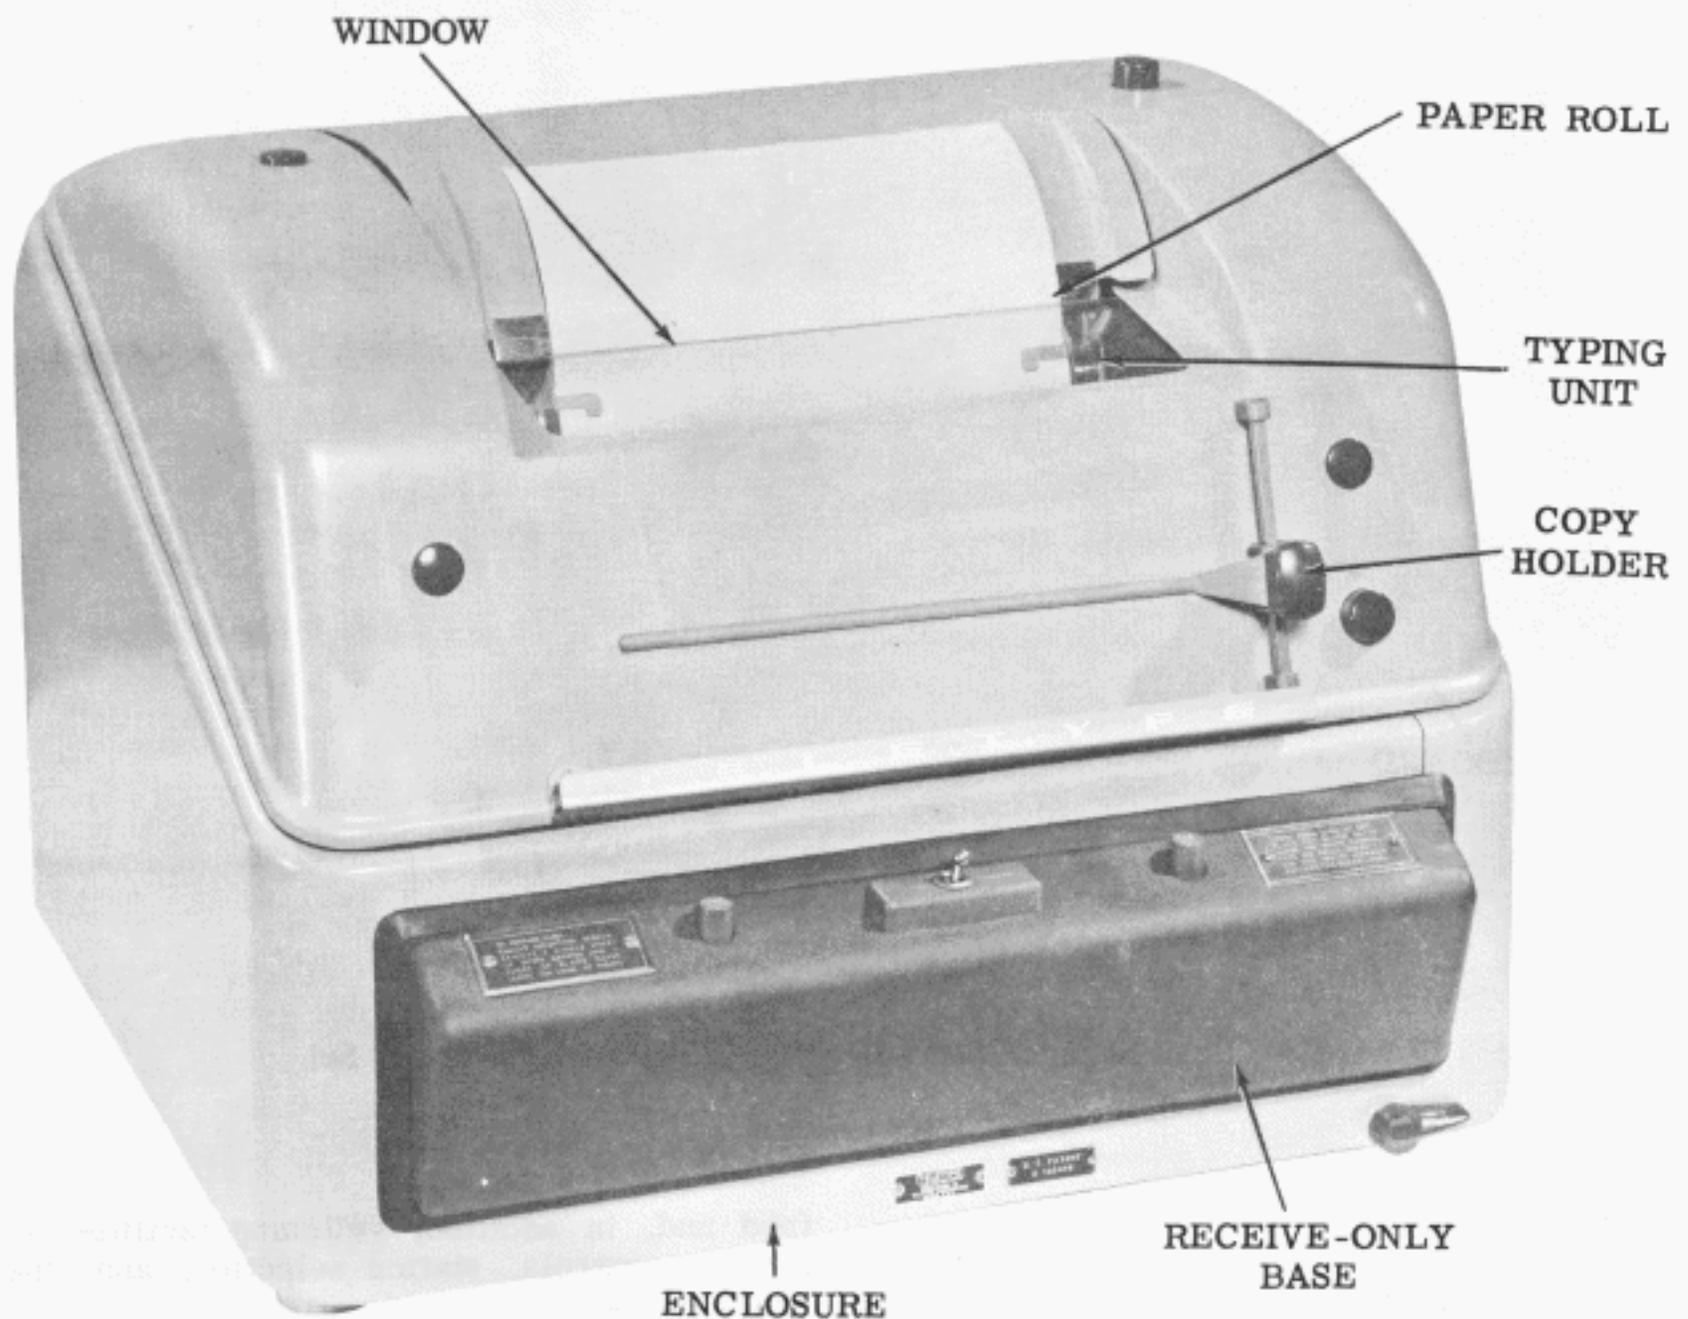

Figure 2 - Table Model Receive-Only (RO) Teletypewriter Set
- (b) Table Model Set - Identical to the Floor Model Set except that it contains no additional space and it rests on a table (Fig. 2).
### SEND-RECEIVE KEYBOARD AND RECEIVE-ONLY BASE (Figs. 2 and 6)